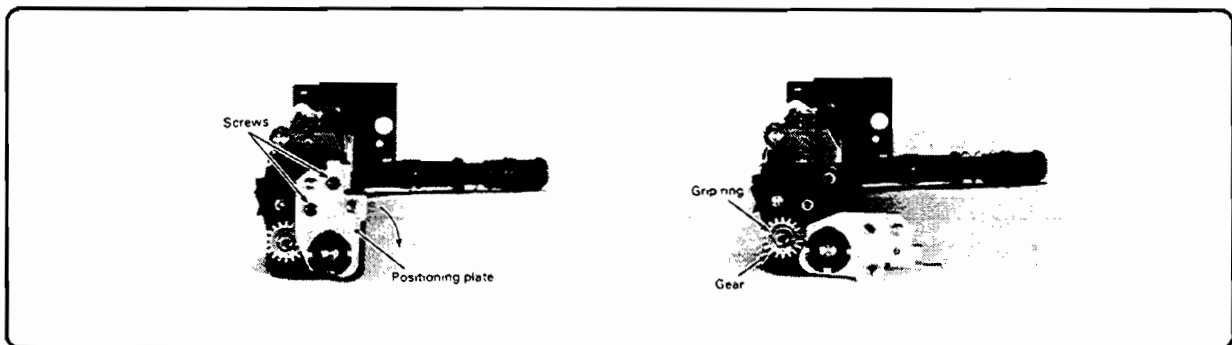

Figure 6-72. Cleaning Roller Screws and Grip Ring
3. Remove the two screws and turn the rear positioning plate 90 degrees (Figure 6-72).
4. Remove the grip ring and remove the cleaning roller drive gear (Figure 6-72).